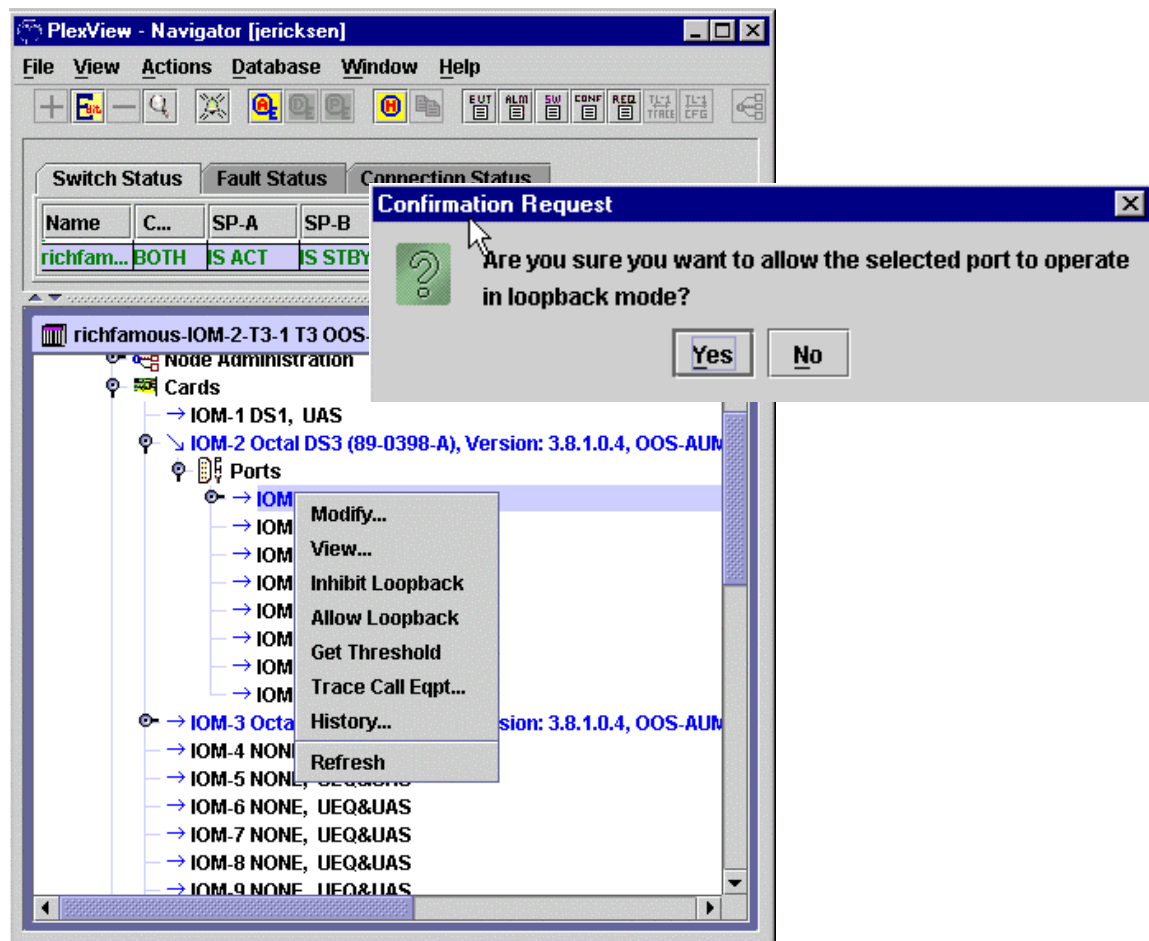

Figure 4. Allowing OC Loopbacks
10. Allow a port of the Plexus 9000 to respond to a remote OC-3 or OC-12 loopback request. Double-click the switch to select it for the main panel and then right-click the switch name. Click *Cards*, desired *IOM* and *Ports*. Right-click the desired port and select *Allow Loopback*. Click Yes in displayed frame to allow loopbacks. See Figure 4.